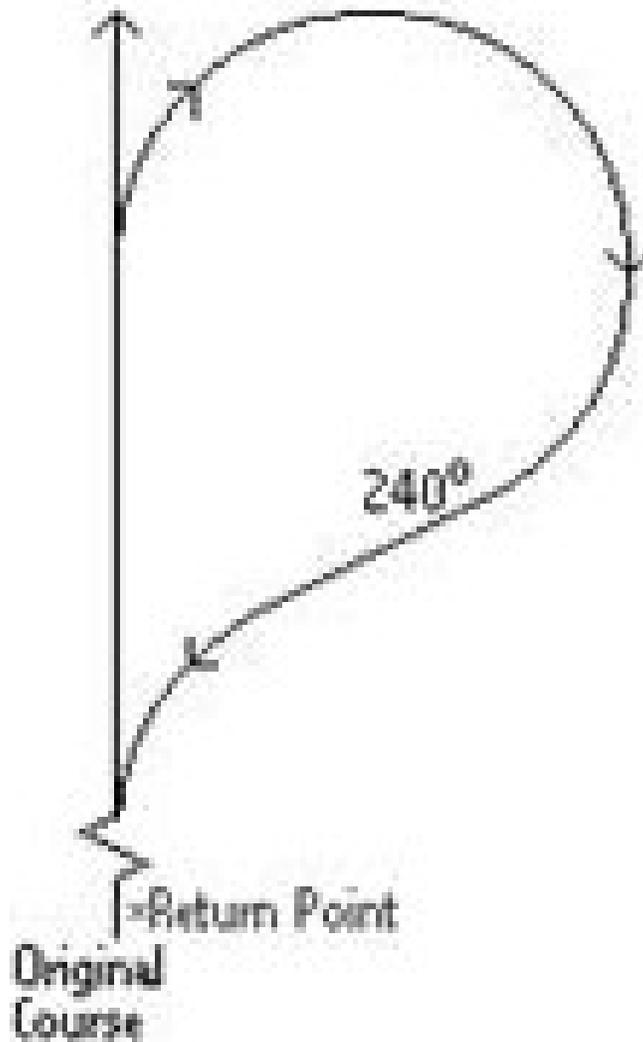

Figure 551-8ST-1039_05 (Scharnow Turn)
(3) Anderson turn (Figure 551-8ST-1039_06). The Anderson turn is a maneuver used to bring a ship or boat back to a point it previously passed through, often for the purpose of recovering a man overboard, an emergency situation in almost all circumstances. The Anderson turn is most appropriate when the point to be reached remains clearly visible. To make the turn, do the following: